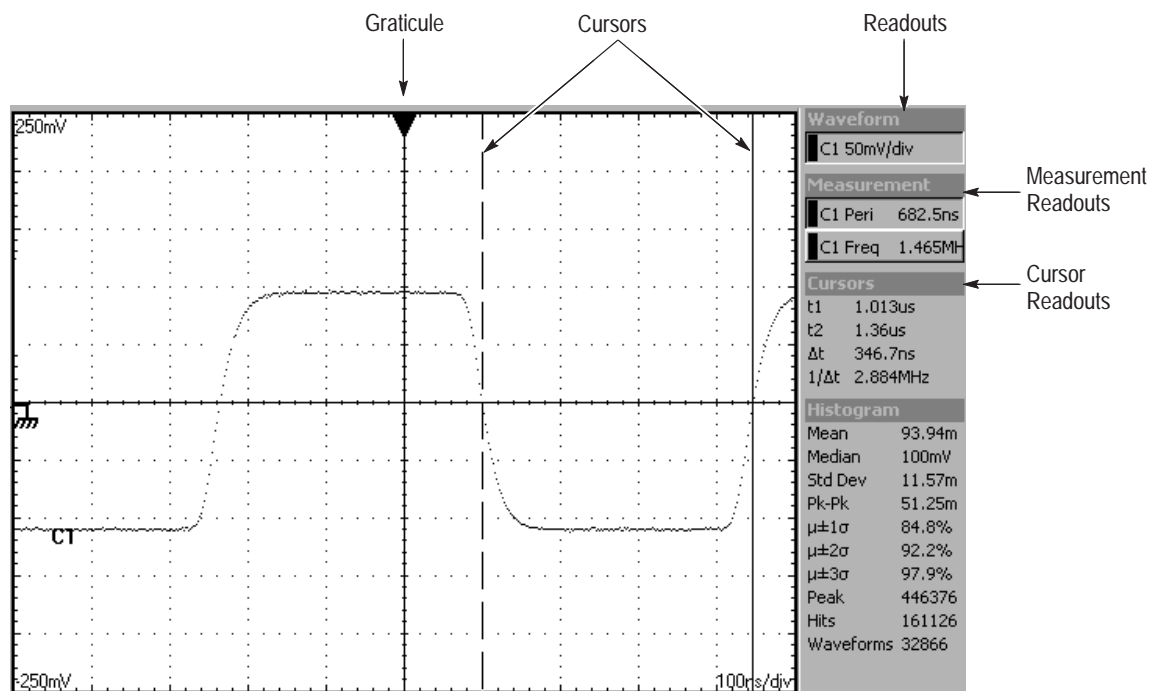

Figure 3–18: Graticule, cursor and automatic measurements
- *Taking Automatic Measurements*, on page 3–66, describes how you can set up the instrument to automatically measure and display a variety of waveform parameters. See Figure 3–18.
- *Taking Cursor Measurements*, on page 3–77, describes using cursors to make amplitude and time measurements on waveforms. See Figure 3–18.